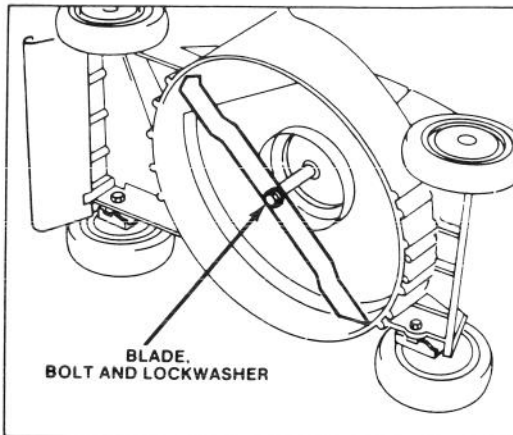

Figure 13
2. Tip mower on its left side (Fig. 13).
3. Tip mower on its left side (Fig. 13). Avoid rotating blade. Starting problems may result.
5. **REMOVING BLADE** — Grasp end of blade using a rag or thickly padded glove. Remove blade bolt, lock washer and blade (Fig. 13).